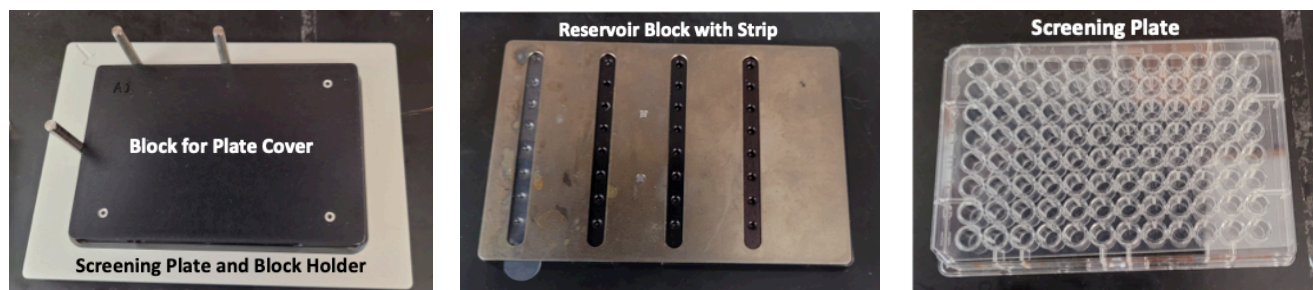

Figure 3. Supplies.
- Place only a small amount of water on the block onto which your cover seal will go (Figure 3, left panel). Use a kimwipe if needed to remove some of the excess water. If there is too much water, the Mosquito tips might move the cover slip and your sample and reservoir drops may not be centered on one another.
- Place reservoir strip(s) on the appropriate block (Figure 3, middle panel), aligning the wells of the strip with the holes of the block. Then place the silver plate over it, ensuring the pins fit in the holes. Note – you will need to use the **5uL reservoir strip if you need to add more than 2uL** of each sample per row. You will also need more than one strip if you are dispensing more than 1 drop per well.
11. When the run is completed, place your reservoir screening plate (Figure 3, right panel) in the holder (Figure 3, left panel). Then, **FLIP** your block with the cover (don’t worry, the cover won’t fall off) and align it against the metal pins of the holder, and push down onto the reservoir screening plate. Slide the block (or pick it up) carefully, so as to not disturb the plate containing your drops. Use the roller to secure the plate cover on your plate, especially around the edges.